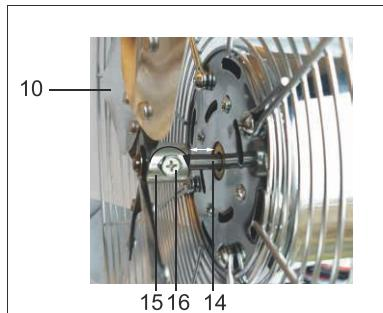

Fig.13: Mounting rotor
15. Turn the Phillips-head screw (16) on the spacer (15) of the rotor (10) counterclockwise until a well-permeable opening is obtained.
16. Push the rotor (9) with the spacer first onto the motor axis (14).
- The rotor with the spacer must not rest directly on the engine block. See Fig. 13.*